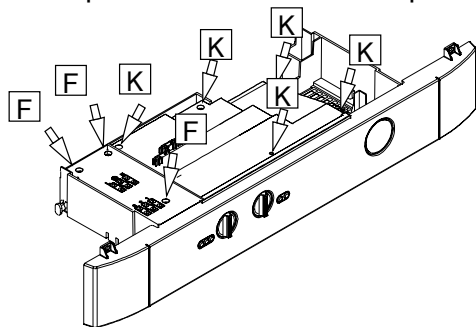

Figure 5
- 5) Remove the screws F and remove the service panel (Figure 5).
- 6) To gain access to the electronic control p.c.b. and the fan and air pressure device remove the screws K and remove the control panel lid (Figure 5).